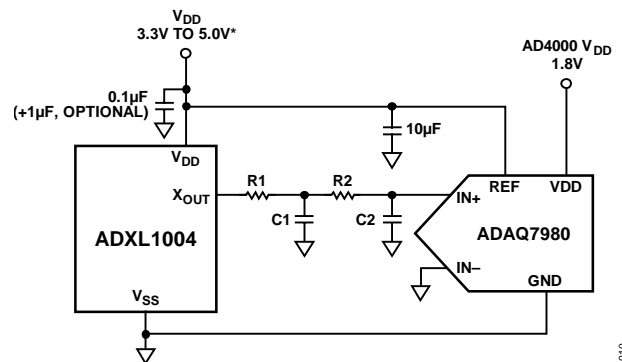

Figure 23. Application Circuit for the ADXL1004
See Figure 23 for an example of the interface, including components when measuring mechanical vibration from 0 kHz to 5 kHz. For a 5 kHz pass band, a single-pole resistor capacitor (RC) filter is acceptable; however, in some applications, use of a more aggressive filter and lower sample ADC sample rate is possible. The following components are recommended to form a 5 kHz low-pass RC filter at the output of the ADXL1004 when interfacing to an ADC, such as the ADAQ7980:  $R_1 = 91\text{ k}\Omega$ ,  $C_1 = 330\text{ pF}$ ,  $R_2 = 0\ \Omega$ , and  $C_2 = \text{not required}$ . A minimum ADC sample rate of 16 kHz is recommended to avoid aliasing. When using sampling rates less than the resonance frequency (typically 45 kHz), be aware and account for the effective gain at the output of the sensor due to the resonance to ensure out of band signals are properly attenuated and do not alias in band.
See Figure 23 for an example of the interface, including components when measuring mechanical vibration from 0 kHz to 10 kHz. The following components are recommended to form a two-pole RC filter at the output of the ADXL1004:  $R_1 = 500\ \Omega$ ,  $C_1 = 10,000\text{ pF}$ ,  $R_2 = 1\text{ k}\Omega$ , and  $C_2 = 10,000\text{ pF}$ . A minimum ADC sample rate of 200 kHz is recommended to avoid aliasing.